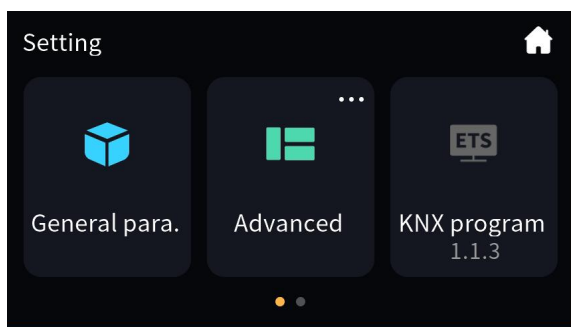

Fig.2.3.1
Click the setting icon in the upper-right corner of the home page to enter the setting page, as shown in Fig.2.3.1.
① **Return to the home page by touching this icon;**
② **This icon is KNX programming button, and display individual address of device below, which is set by ETS;**
Touch the button icon② to enter or exit the physical address programming mode. Under the programming mode, the icon turns red, as shown in Fig.2.3.3. After exiting the programming mode, the icon returns to the normal instruction, as shown in Fig.2.3.1.
③ **Return to the setting page by touching this icon;**
④ **This area displays the page description identification of Setting page, format as: setting| description of function page currently manipulated;**